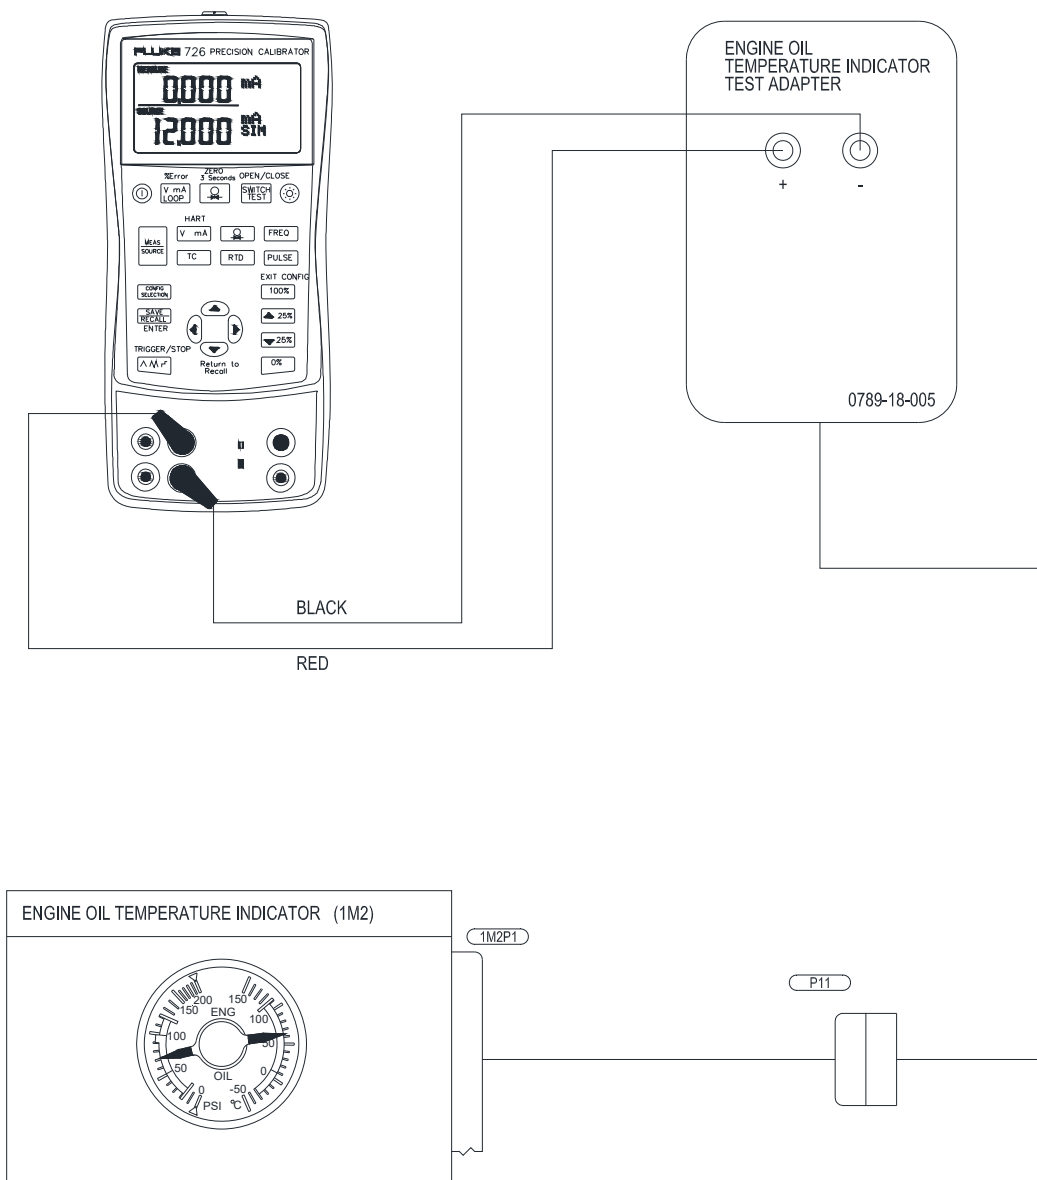

Figure 95-25: Functional Check Setup for the Engine Oil Temperature Indicator
1. Prepare the functional check setup, as shown in Figure 95-25.
5. Connect the Test Adapter, 0789-18-005-1, to the electrical connector (P13), as shown in Figure 95-25.